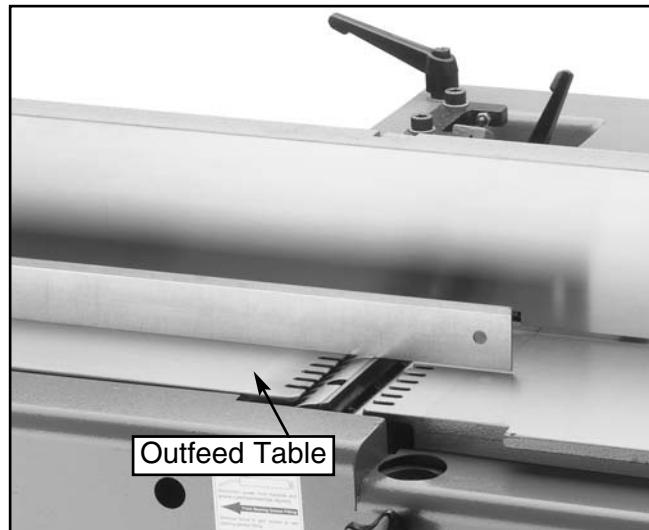

Figure 12. Setting outfeed table with straight-edge.
3. Position a steel straightedge on the outfeed table. Extend the straightedge over the middle of the cutterhead as shown in **Figure 12**.